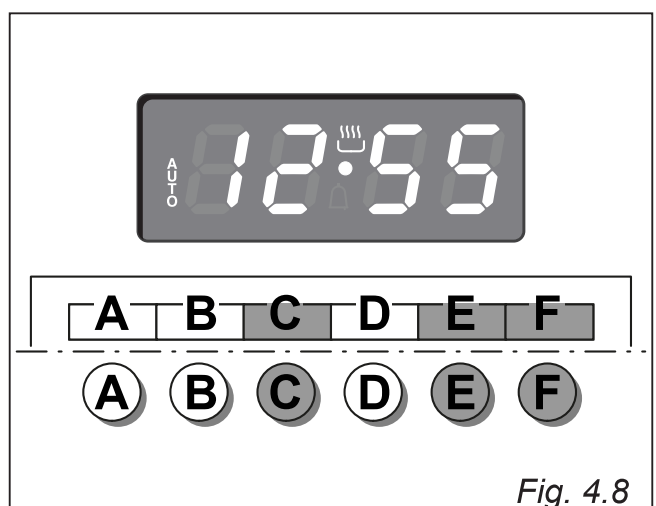

Fig. 4.8
2. Set the end of the cooking time by pushing the “C” button and the “F” button to advance, or “E” to go backwards if you have passed the desired time (fig. 4.8).